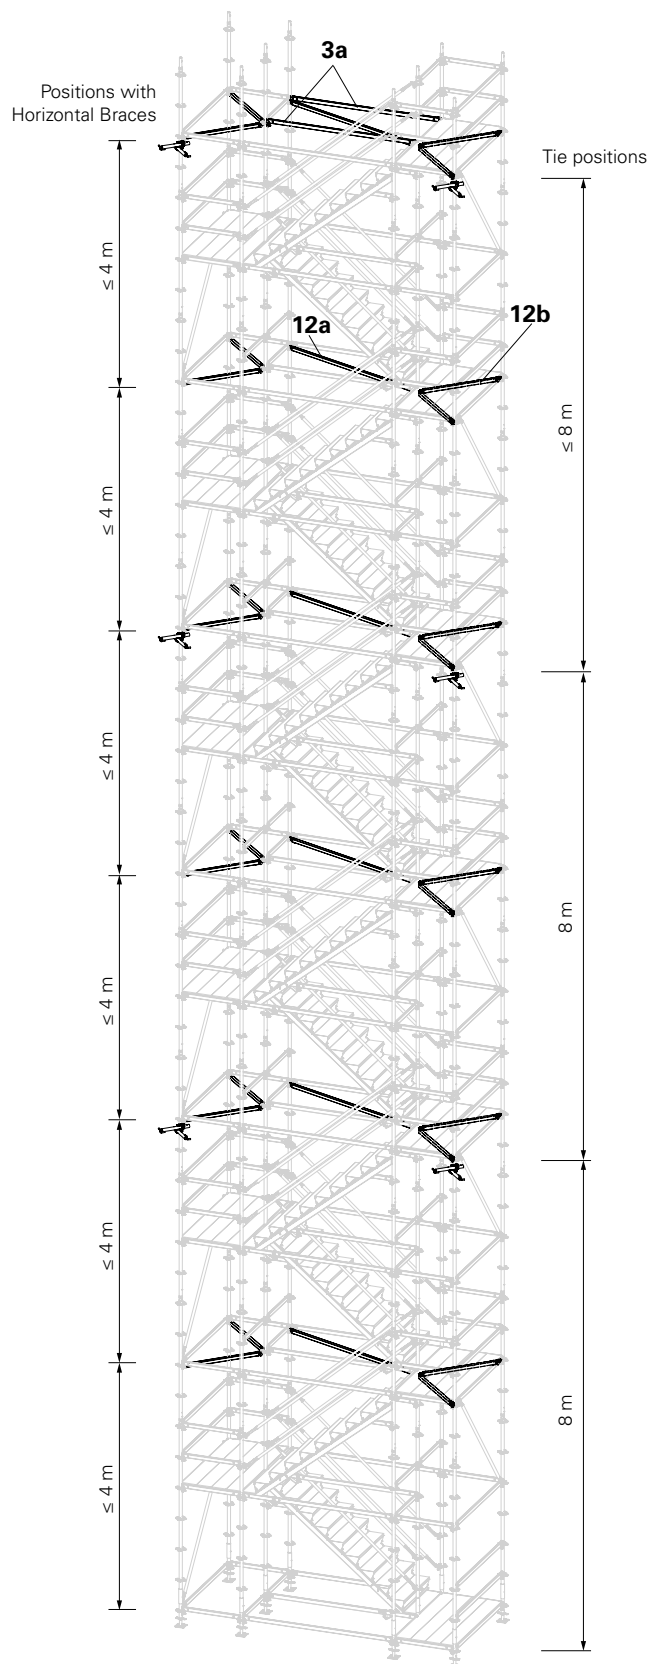

Fig. A3.09
Fig. A3.09 shows the view from the building side.
2. Horizontal Braces UBH (12a, 12b) every 4.0 m. (Fig. A3.09)
(Fig. A3.09)